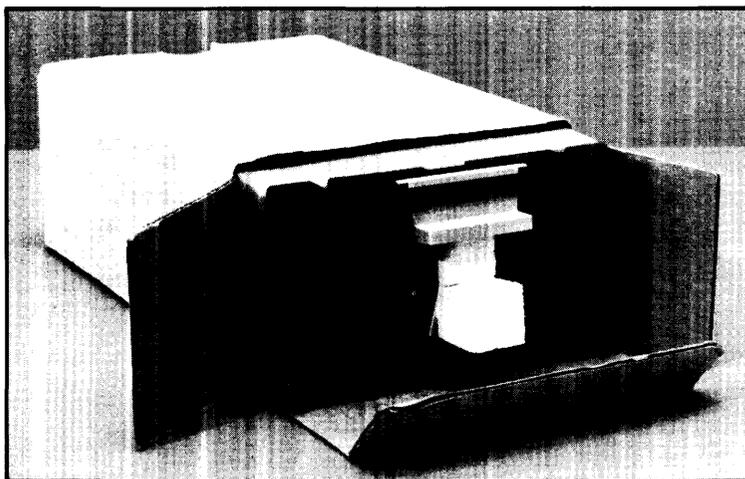

Figure 5-16: Inner Box
3. Place the foam pad (P/N 4208-0368) on top of the drive assembly and insert into the inner box (P/N 9211-3594) as shown in Figure 5-16.